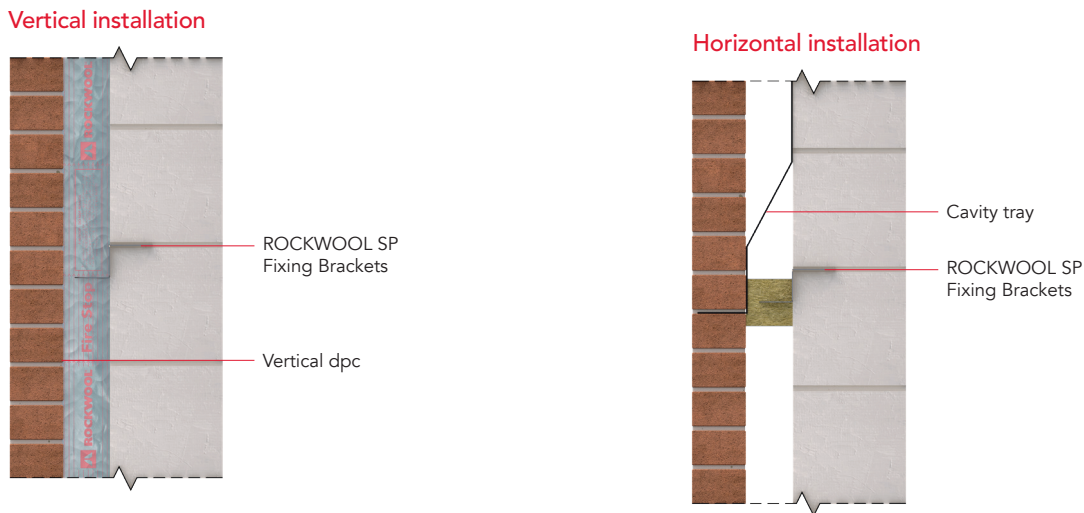

Figure 5
4. Work on both leaves can then be continued and must include either a vertical damp proof course (vertical installation) or a cavity tray (horizontal installation) installed over the SP FireStop Slab as shown in Figure 5.